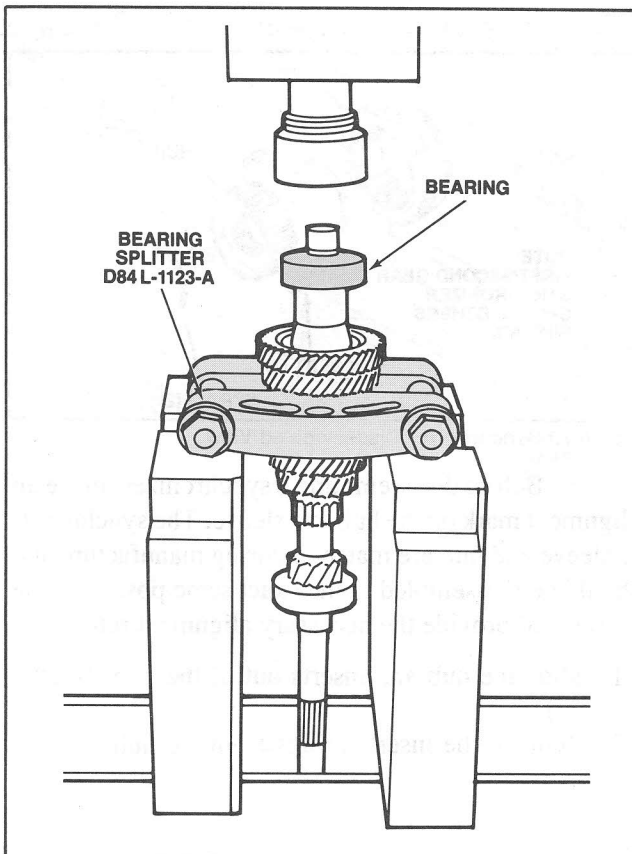

Figure 72 Bearing/Gear Removal.
2. Remove the bearing, spacer, fifth gear and fourth gear. (Figure 72).